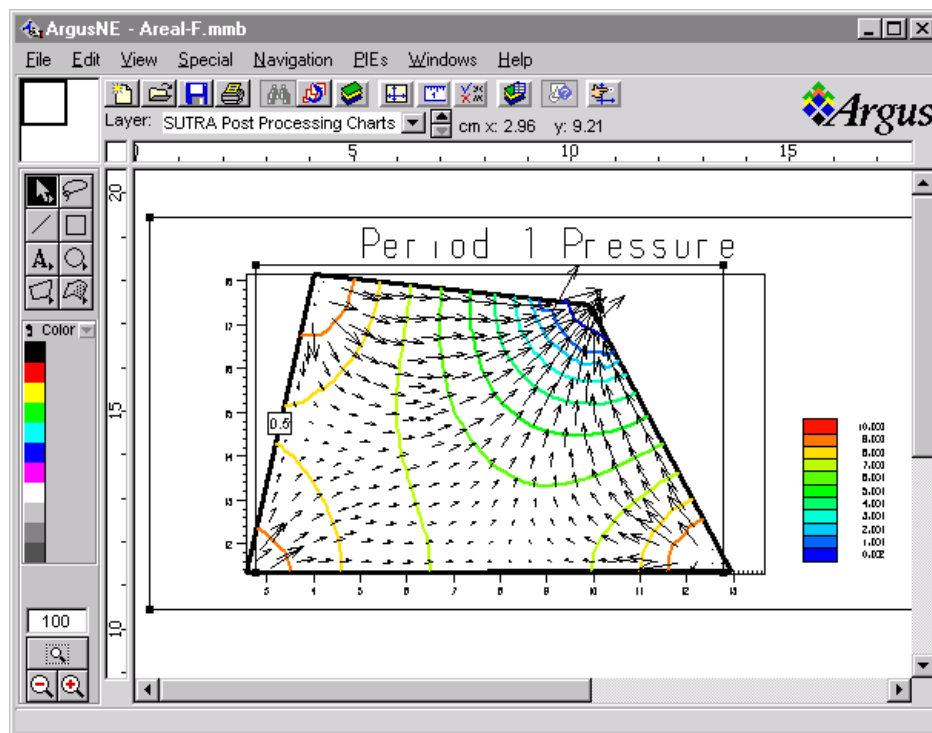

Figure 4. Head and Vector Plot in Areal Ground-Water Flow Step-by-Step Example
26. The plot appears, but is too cluttered because the mesh is also visible. Make the mesh invisible by clicking on the 'eye' next to **SUTRA Mesh** in the *Layer List window*. A plot of velocity vectors and head contours, similar to that in Figure 4 is visible.
2. Select **File**, then **Open...**, to bring back the project that was saved in the above step-by-step example. In the *Choose file to open: window* that appears, move to the appropriate directory and double click on the ".mmb" project file that was saved in the above example (e.g. Areal-F.mmb). This returns the user environment to the same state as when the project was previously saved (Figure 4).